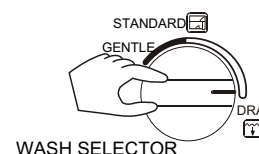

Figure 5
5. After washing, the buzzer will ring. Set the "WASH SELECTOR" at "DRAIN". (Figure 5).